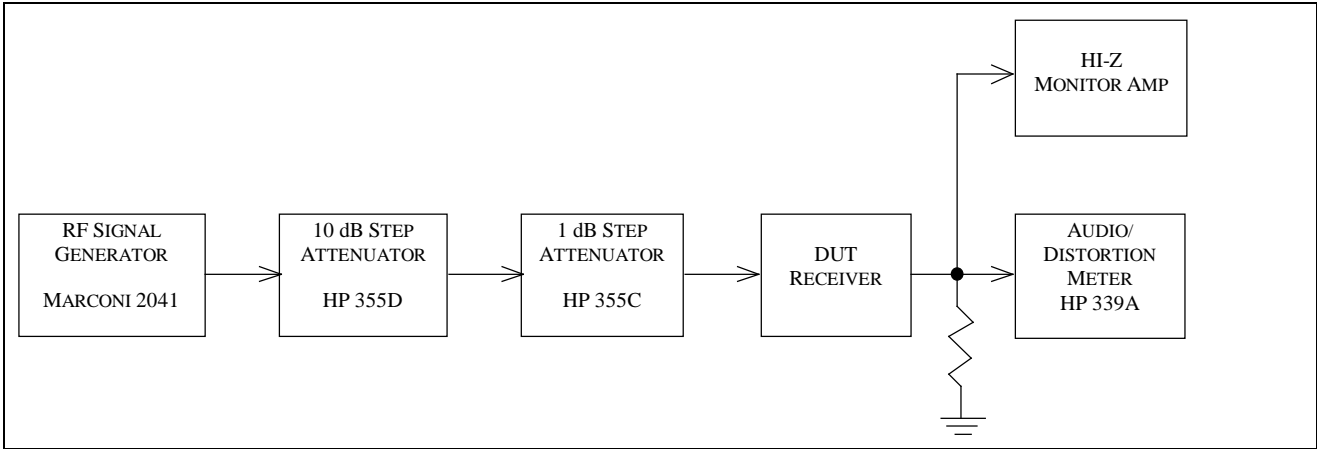

Fig. 5-13 — FM Squelch Sensitivity Test Hook-up
5.13.2 Test hook-up (See Fig. 5-13)